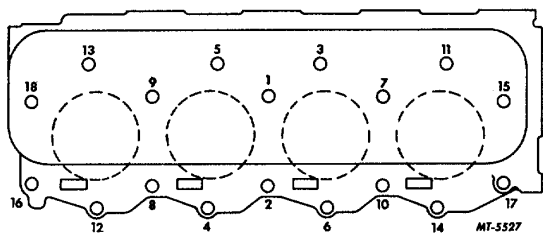

Fig. 178 Cylinder Head Bolt Tightening Sequence
c. Following sequence shown in Fig. 178, tighten cylinder head bolts evenly to specified torque. (See TORQUE CHART.)